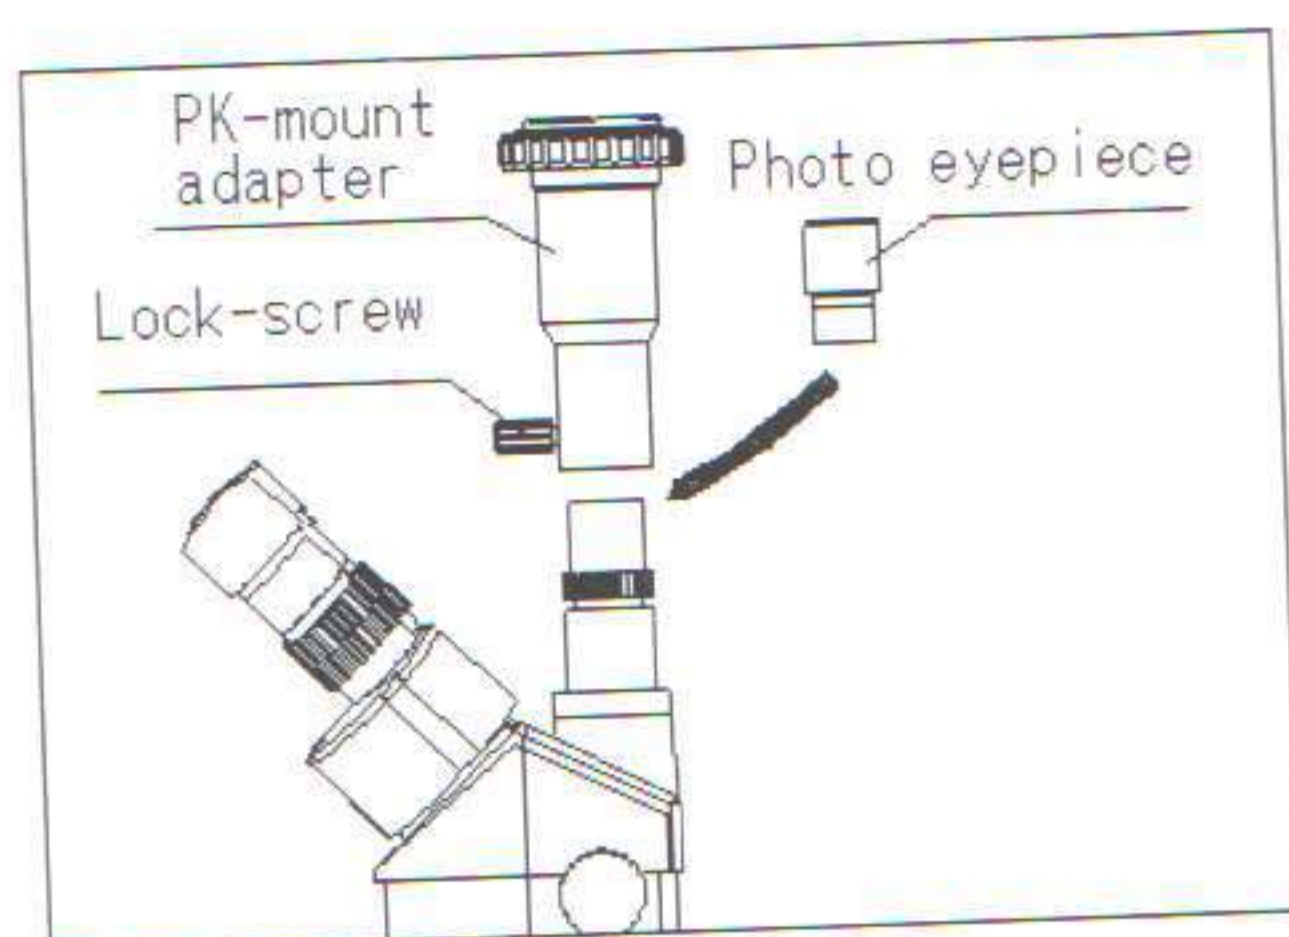

Fig.8
- 2) Connect the PK-mount adapter with the photo eyepiece, and then tighten the lock-screw. (Fig.8)